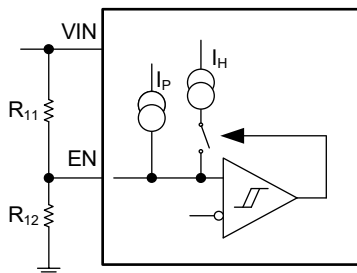

Figure 3. VIN UVLO Setting with a Resistor Divider
The EN pin is used to turn the device on and off. The device starts operation when the EN pin voltage rises above the enable rising threshold. Pulling the EN voltage below the enable falling threshold, stops switching and reduces the device current to the very low quiescent shutdown level. Floating the EN pin enables the device due to its internal pull-up current source. This current source is used for programming the UVLO threshold. An open-drain or open-collector output connected to the EN pin can be used to control the device. An internal UVLO circuit is implemented on the VIN pin to disable the device and prevent malfunction when the supply voltage is too low. The internal VUVLO hysteresis is 105mV. To program a higher UVLO threshold for the VIN that is typically needed for split-rail applications, the EN pin can be configured to Figure 3. Without external components, the internal pull-up current (IP) sets the EN pin default state to enable. When the device is enabled, the second current source (IH) is activated. IP and IH are used to set the UVLO.